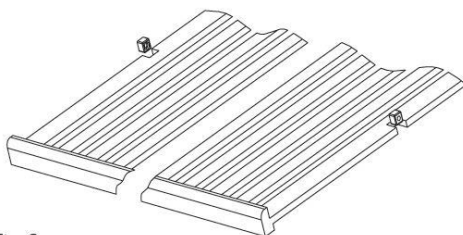

Fig. 2
- To remove a shelf from the wine cooler first remove all bottles from the shelf, then pull the shelf forwards until the groove on either side of the shelf is level with the plastic peg on either side of the cabinet (as shown in Fig 2). Then lift the shelf up and pull forwards.